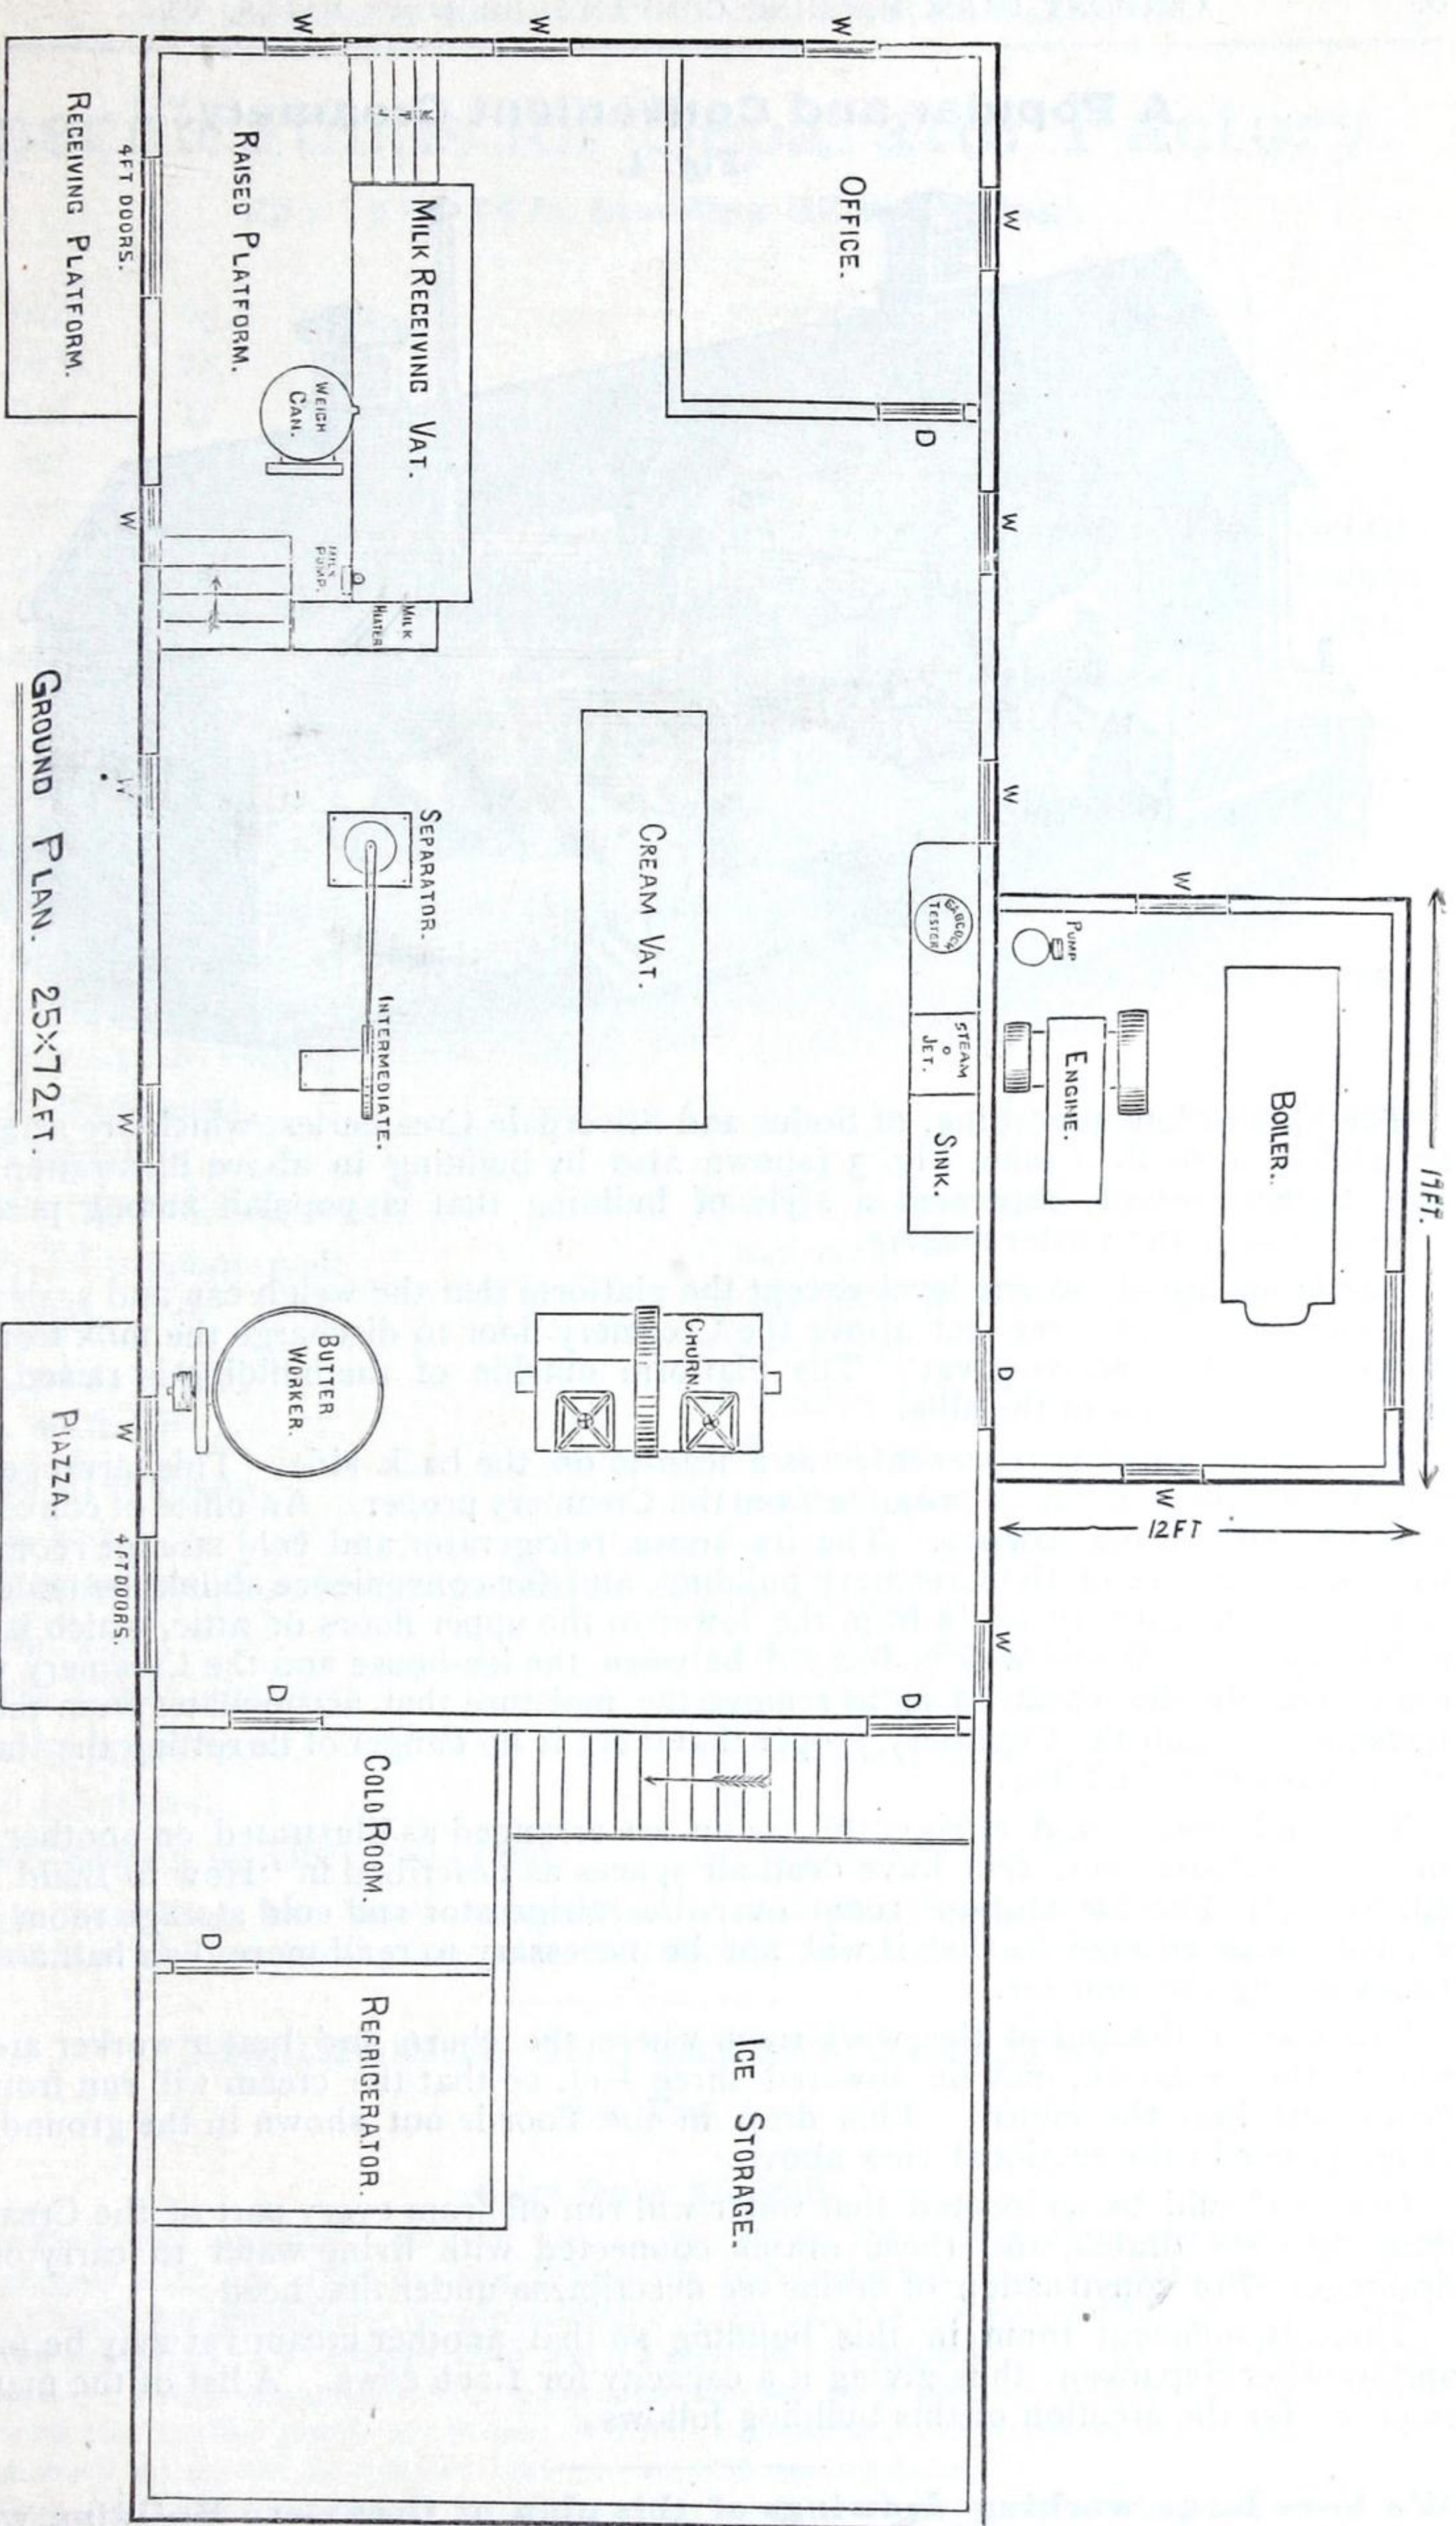

**Fig. 2. SODUS CREAMERY, SODUS, N. Y. Cost of Building and Apparatus, Complete, \$3,200.**
**Built After This Plan. (Shown in Fig. 2.)**